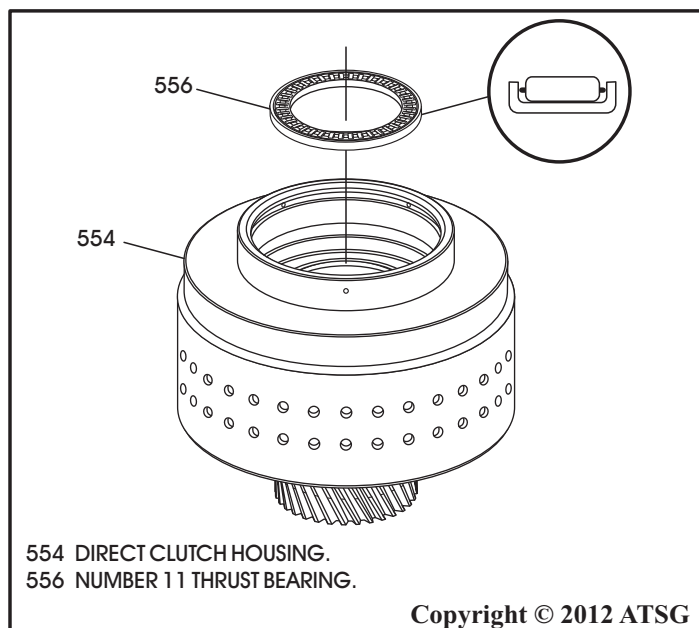

Figure 276
77. Ensure that the number 11 thrust bearing is still seated properly in the direct clutch housing, as shown in Figure 276 (Needles facing up).